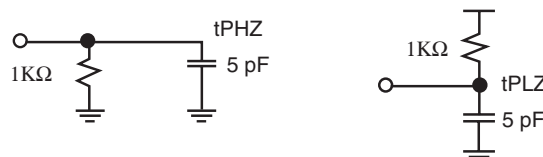

Figure 5: Loads Used for t_{PXZ}
a. These loads are used for t_{PXZ} (see Figure 5)